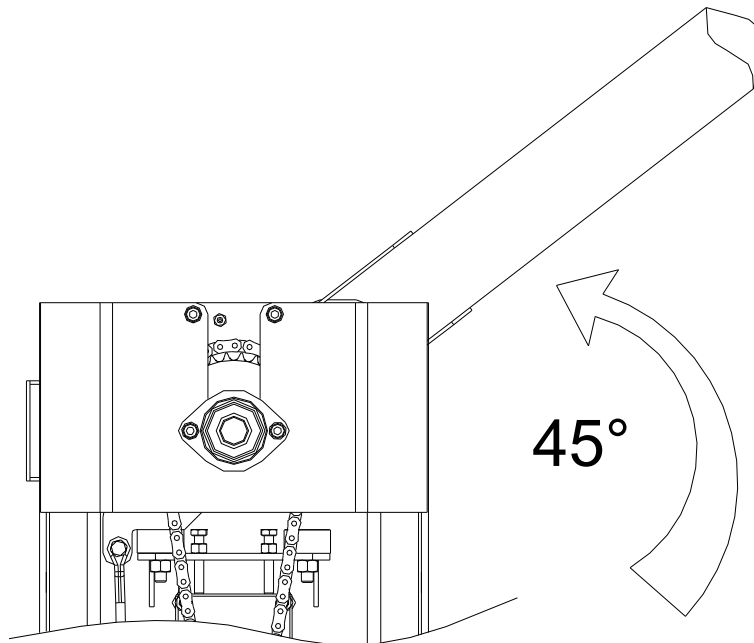

Fig. 10
- Balance the barrier's arm adjusting the screwable rods. The arm must be in equilibrium in the half way position (45°) (Fig. 10).
- Check the balance of the arm (if necessary rebalance the arm adjusting the screwable rods) (see Fig. 10).